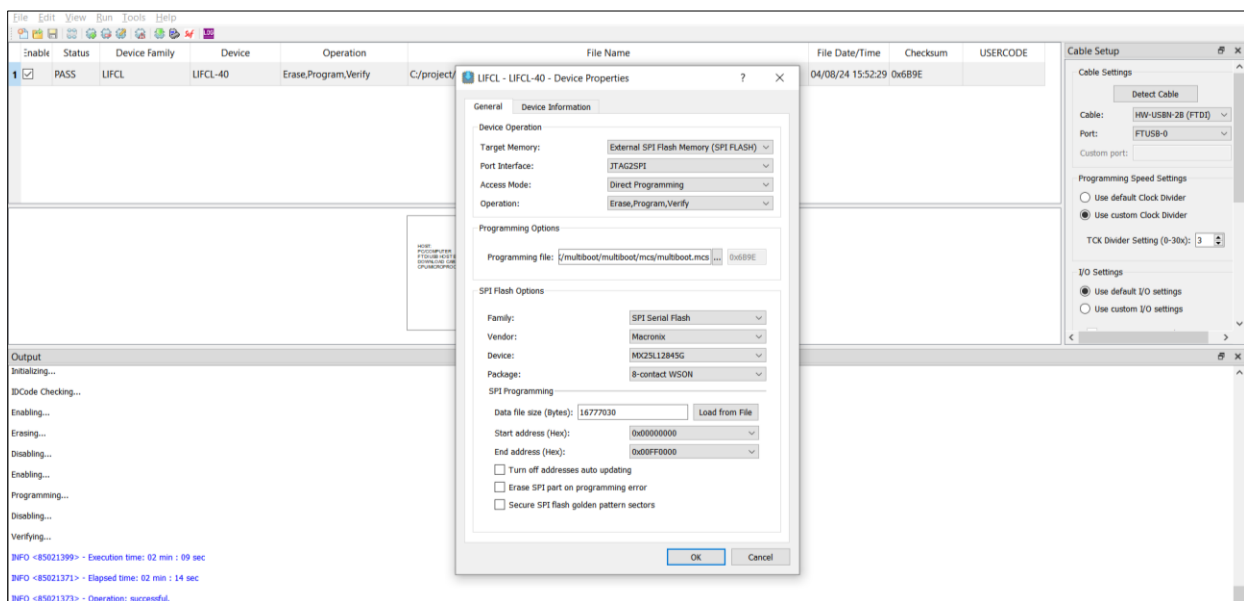

Figure 7.1. Device Properties Window
2. Select the device properties settings, as shown in Figure 7.1. Click **OK**.